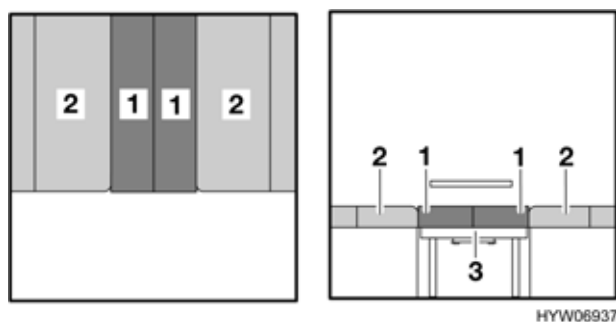

Fig. 95 After conversion
- Place both back cushions (Fig. 95,1) in the middle.